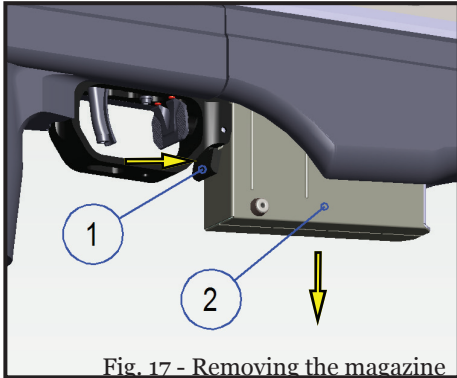

Fig. 17 - Removing the magazine
1. Push the magazine catch (1, Fig. 17), located in front of the trigger guard, forward.
2. The magazine (2) falls freely out of the rifle.